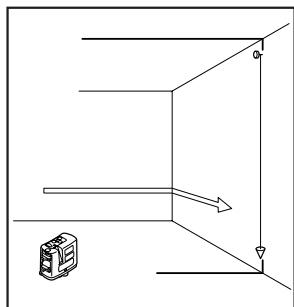

Fig. 8
- Hang a plumb-bob (See the Fig.8) from 3 m height of the wall (the height of ceiling is approx. 3 m).